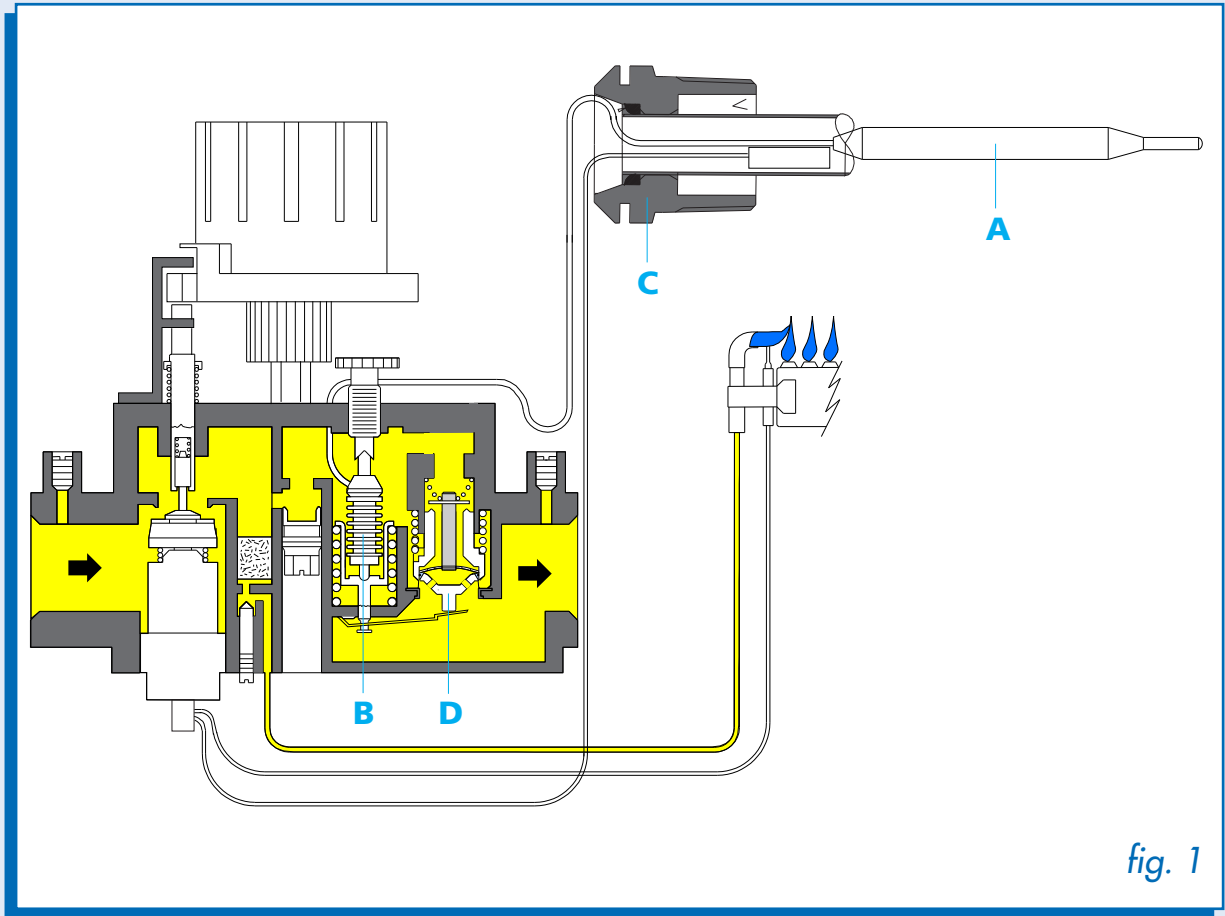

fig. 1
The system operates by means of the thermal expansion of an appropriate liquid contained in a bulb (A) and connected by a capillary to an expandable bellows (B). The bulb is housed in a thermostatic sheath (C) which is immersed in the water. In working conditions with the water temperature below the requested value, the gas passage to the main burner is open (fig. 1).